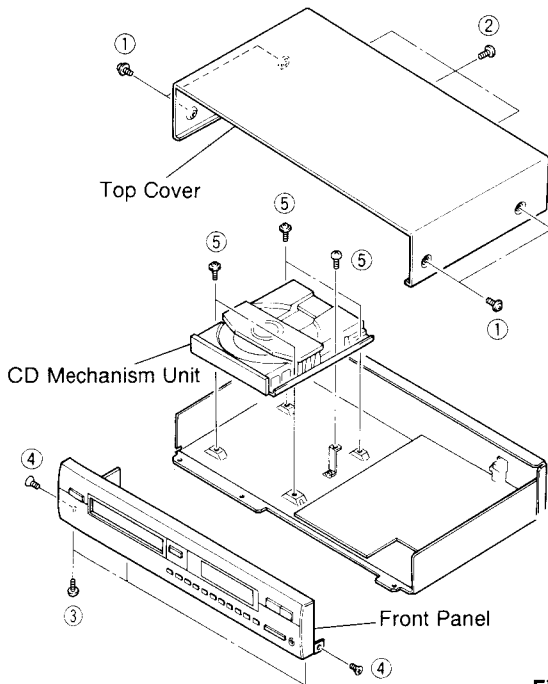

Fig. 1
- Remove 4 screws ( ① ) and 3 screws ( ② ) in Fig. 1.
- Remove 3 screws ( ③ ) and 2 screws ( ④ ) in Fig. 1.
- Remove 5 screws ( ⑤ ) in Fig. 1.